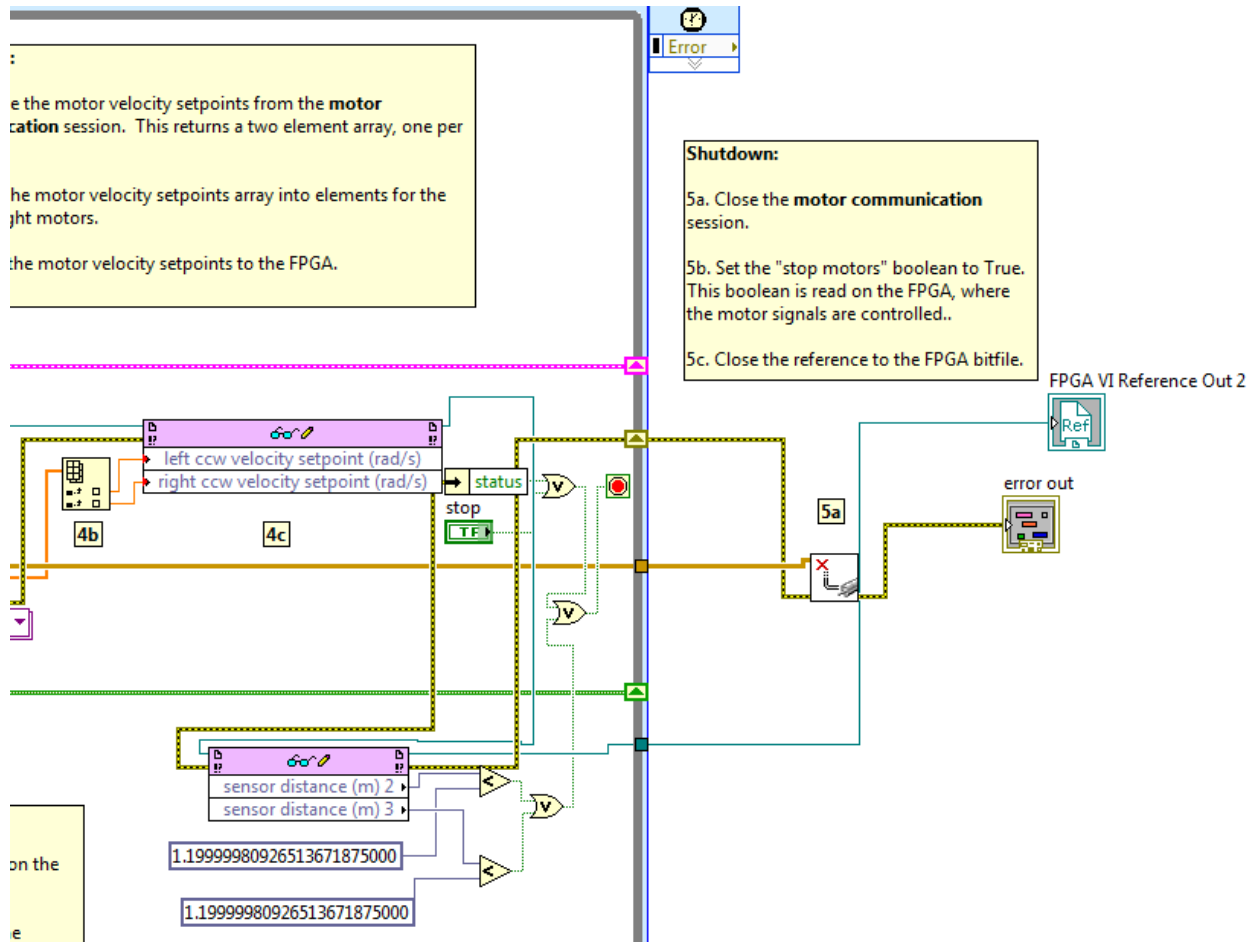

Fig. 3-3
Step 11: Fig. 3-3 shows the changes to the stop condition for the loop that we will make. Add another “read/write control” vi to the loop and connect it from the previous “read/write control” vi. You may have to change your wire connections to the indicators but in the end it should look like the Fig. 3-3. Set the new “read/write control” vi to read from the infrared sensors. This may require you to change the FPGA reference seen by the VI to access the new sensor distances. Go to the front panel and double click on the FPGA VI reference in control we made in step 9. Choose the FPGA bit file like you normally would when setting the “open FPGA reference” vi.